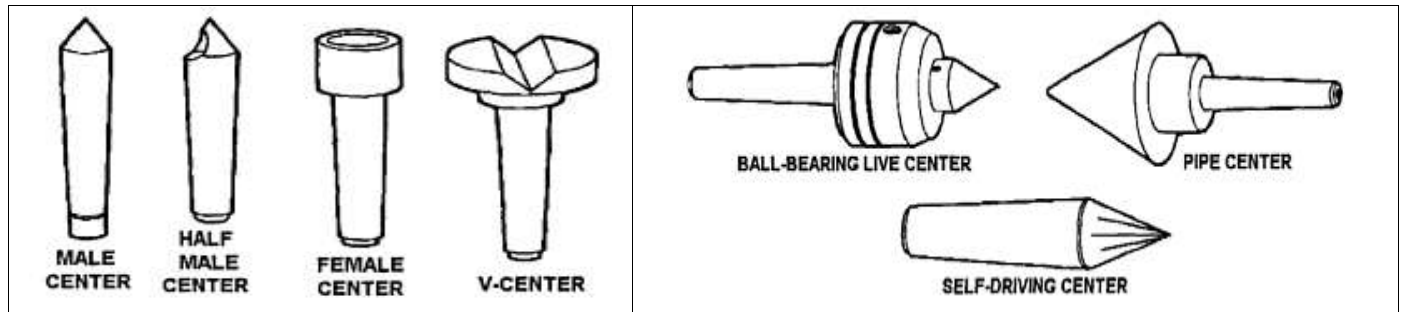

Figure 7-24. Lathe centers.
**OBS.:** Most lathe centers have a tapered point with a  $60^\circ$  included angle to fit workplace holes with the same angle. The workpiece is supported between two centers, one in the headstock spindle and one in the tailstock spindle. Centers for lathe work have standard tapered shanks that fit directly into the tailstock and into the headstock spindle using a center sleeve to convert the larger bore of the spindle to the smaller tapered size of the lathe center. (Figure 7-24).